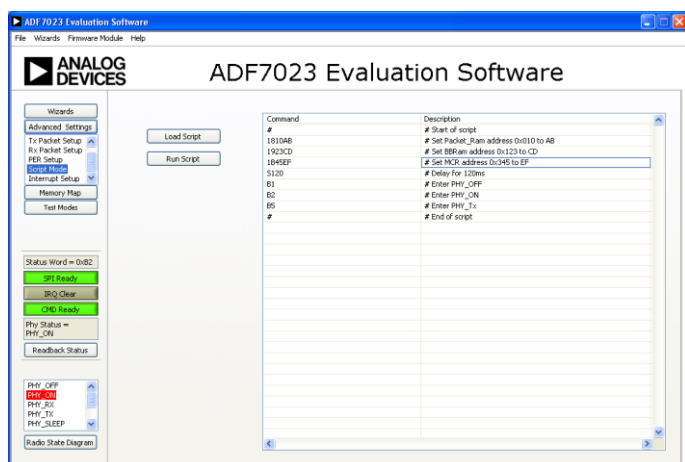

Figure 34
2. Load a previously saved script by clicking the “Load Script” button and navigating to the script file. Once open is selected, the script will be loaded into the script window *(Figure 34)*